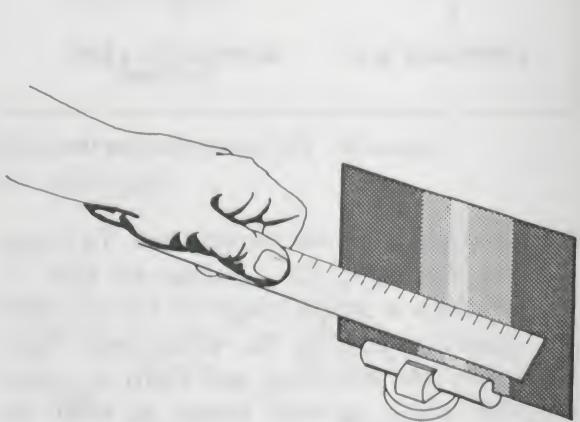

Figure 31.
2. *Place a millimeter scale* so that its zero is at the red edge of the spectrum (as shown in Figure 31).